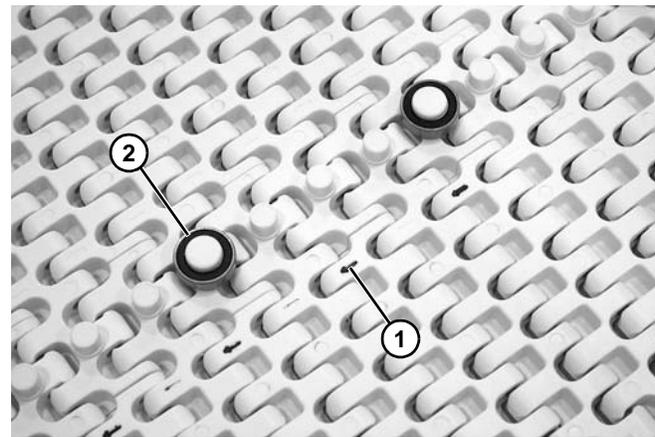

Figure 9
2. Orient the belt with the arrows (Figure 9, item 1) on the underside of the belt pointing in the direction of the travel of the belt.
The bearings (Figure 9, item 2) on the underside of the belt must not be next to each other. A minimum of one space, and a maximum of three spaces, is required between bearings.